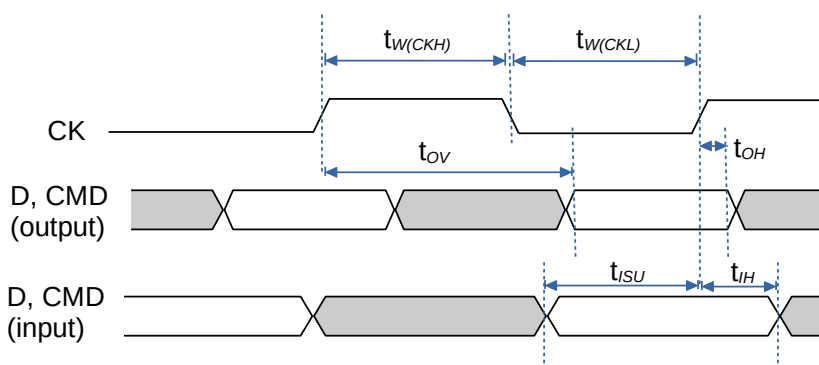

Figure 9-9. SD/MMC Timing in HS Mode
Figure 9-9 shows the timing diagram for SD/MMC in high-speed (HS) mode. Table 9-6 lists the timing requirements. These requirements are crucial for ensuring reliable and synchronized data communication in HS mode.